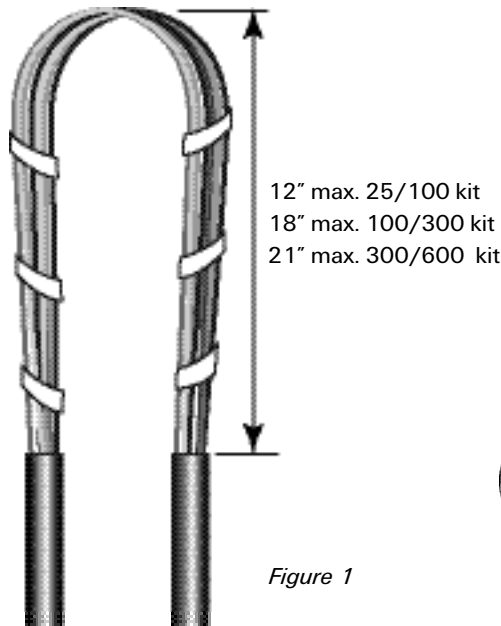

Figure 1
1. Remove cable sheath and shield from the cable. See Figure 1.